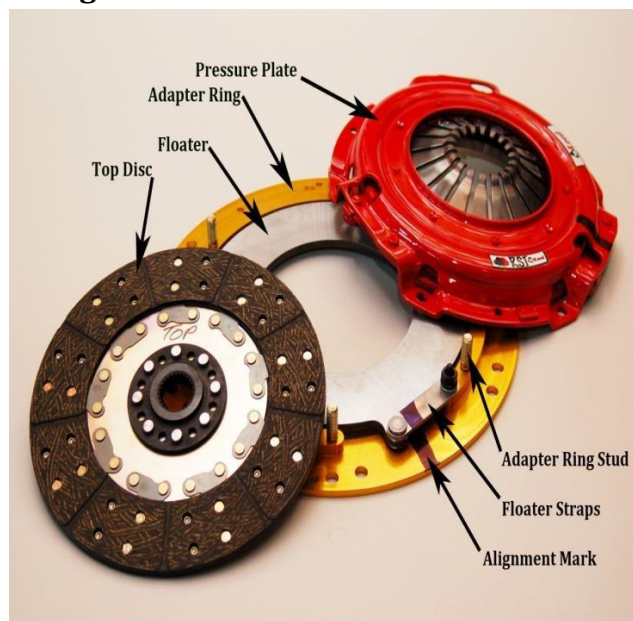

Figure 2
- 3) Lift off pressure plate and top disc from the adapter ring and set aside. Your adapter ring may be gold, red or black depending on your specific application. Figure 2.